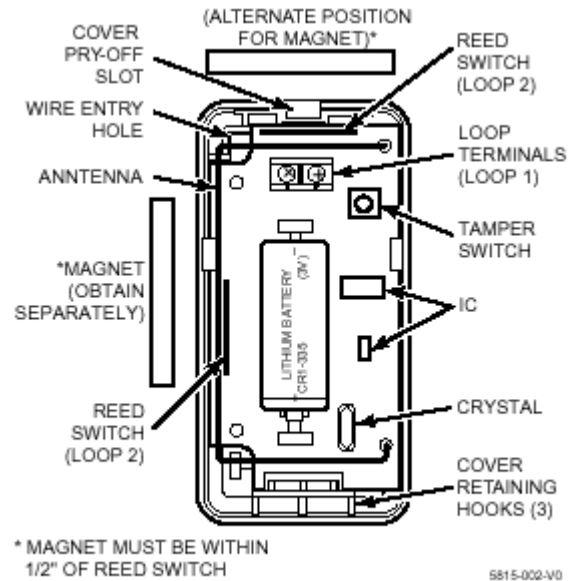

Figure 2. 5815 (shown without cover)
The description that follows assumes that the unit will be mounted as shown in the diagrams, with the magnet (if used) located in one of the positions shown in Figure 2. The unit may, however, be installed in any direction, as long as the relationship of the unit to its mounting plate and (if used) magnet is maintained.
NOTE: If a wired contact loop is to be used, with concealed wiring, the wire exit hole in the wall must be located under the wire entry hold in the case as shown in Figure 2, and no more than ¼" in diameter.
6. If a reed switch is to be used, mount a No. 5899 Magnet (obtained separately) adjacent to the reed switch, or adjacent to the top of the case (see Figure 2). In either case, the magnet must be mounted within one-half inch of the reed switch.